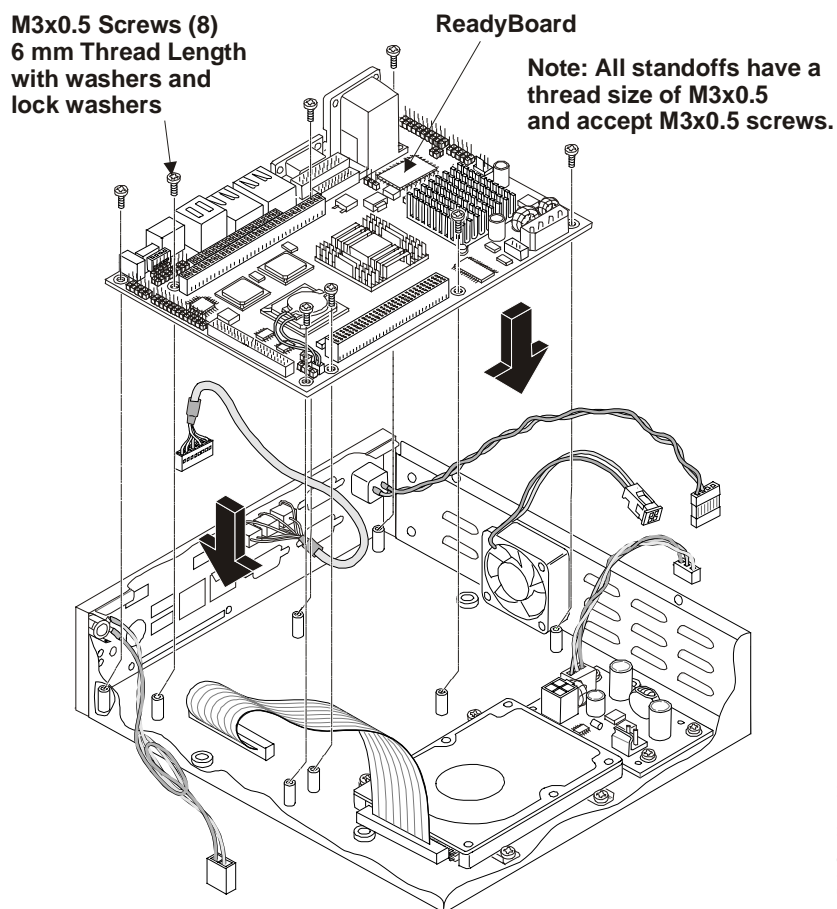

Figure 2-8. Installing ReadyBoard into Enclosure
10. Insert eight M30.5, 6mm screws with washers into the standoffs on the enclosure floor. See Figure 2-8.